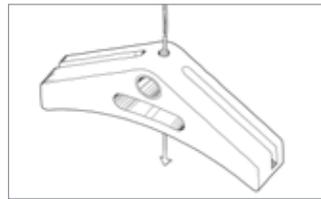

Figure 1
2. Feed the cable through the vertical hole in the Wide Cable Carrier (figures 1 & 2). Using your 3mm hex wrench, secure the cable carrier to the brake cable by tightening the included set screw until the carrier cannot slip on the brake cable. Do not over tighten as this can weaken the cable by crushing it.